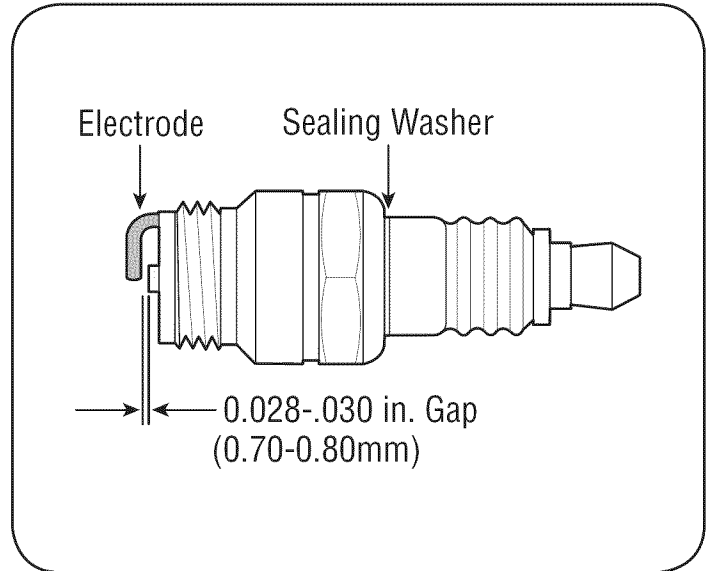

Figure 12
4. Measure the electrode gap with a suitable gauge. The correct gap is 0.028 - 0.030 in. (0.70 - 0.80 mm). See Figure 12. If adjustment is needed, correct the gap by carefully bending the side electrode.